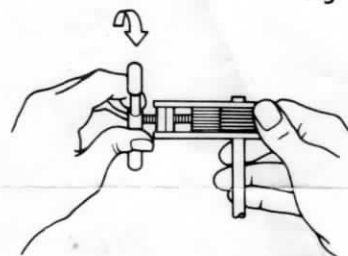

Fig. 2
4. Tighten the clamp screw approximately $\frac{1}{2}$ to $\frac{3}{4}$ of a turn beyond free travel position to secure tubing. (See Fig. 2.)